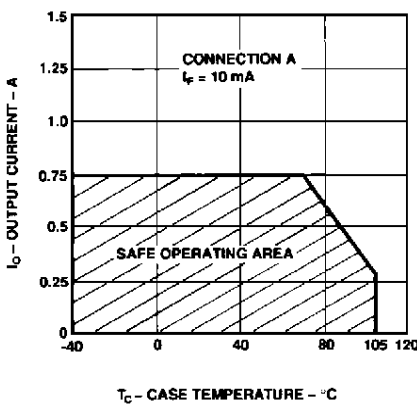
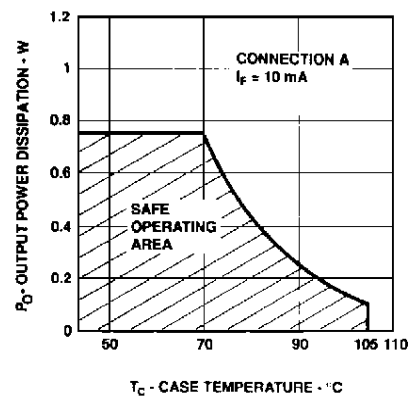

Figure 3B. Maximum Average Output Current Rating vs. Case Temperature.
Figure 4. Output Power Derating vs. Case Temperature.
2. For derating, see Figure 4. The output power P_O derating curve is obtained when the part is handling the maximum average output current I_O as shown in Figure 3.
Derating curves are shown in Figures 3 and 4. Figure 3 specifies the maximum average output current allowable for a given ambient or case temperature. Figure 4 specifies the output power dissipation allowable for a given case temperature. Above a case temperature of 93°C, the maximum allowable output current and power dissipation are
related by the expression $R_{SS} = P_O(\max)/(I_O(\max))^2$ from which R_{SS} can be calculated. Staying within the safe area assures that the steady state junction temperatures remain less than 125°C. As an example, for a case temperature of 100°C, Figure 4 shows that the output power dissipation should be limited to less than 0.5 watts. A check with Figure 3B shows that the output current should be limited to less than 150 mA. This yields an R_{SS} of 22 Ω .